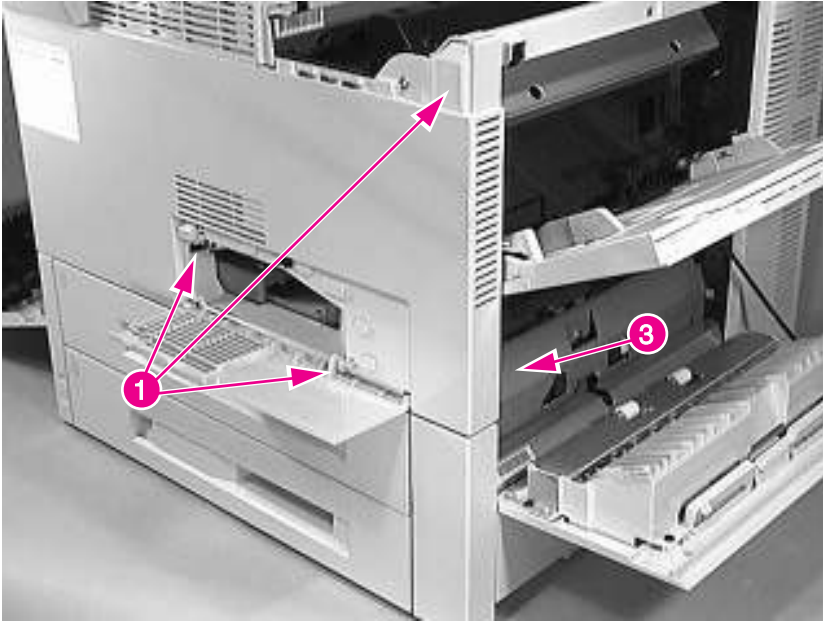

Figure 6-7 **Front Cover (1 of 2)**
- 2 Open the front access door, and remove 3 screws (figure 6-7, callout 1).
- 4 Carefully pull the bottom of the cover away from the chassis while moving it to the right to release the retaining tab (figure 6-7, callout 3).
- Front Cover (see figure 6-7 on page 168)